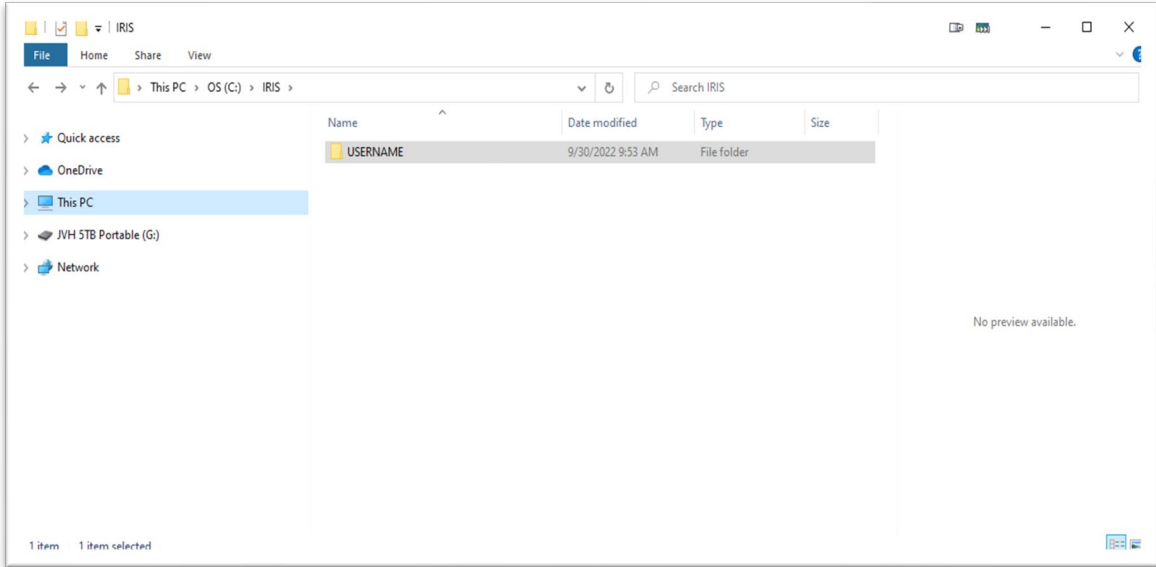

Figure 1. iRIS Installer Folder Creation
3. The installer will create a folder named, *C:\IRIS\<USERNAME>*. See Figure 1